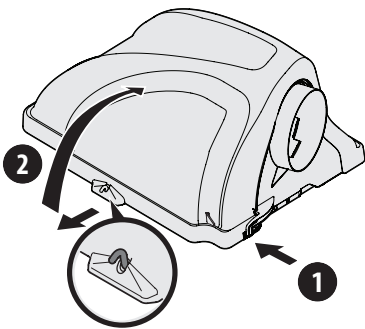

Figure 32
1. Open bagger cover by pushing in on the rear side tabs with your hand (1), and lifting the cover with your other hand in the center rear of the bagger cover (2) as shown in Figure 32.